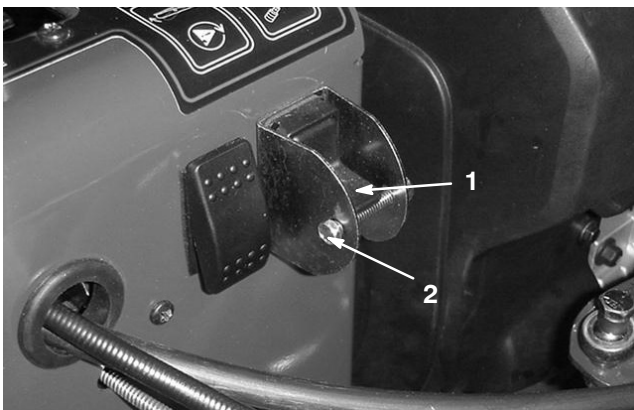

Figure 30
3. Remove locking capscrew and nut from selector switch (Fig. 30).